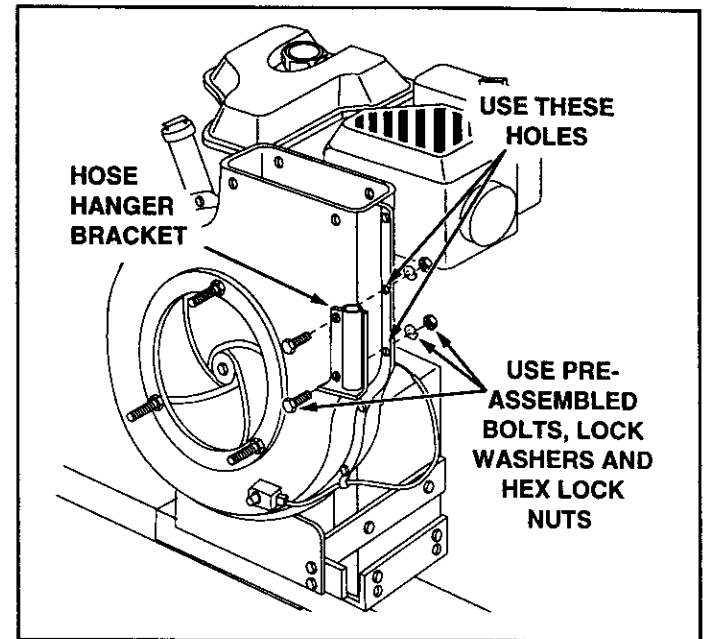

FIGURE 22
- Remove the hex bolts, lock washers and hex lock nuts from the two holes in the impeller housing as shown in figure 22. Assemble the hose hanger bracket to the two holes using the bolts, lock washers and lock nuts which you removed.